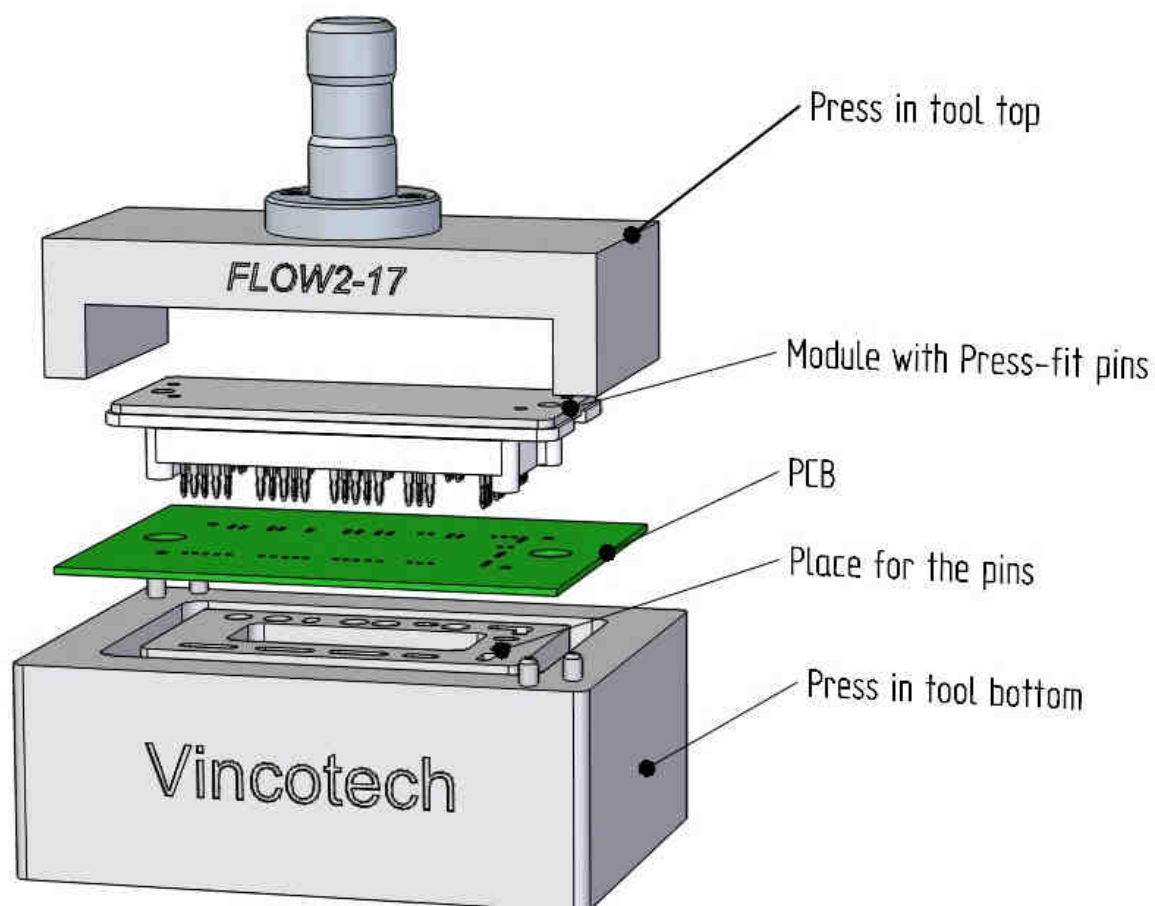
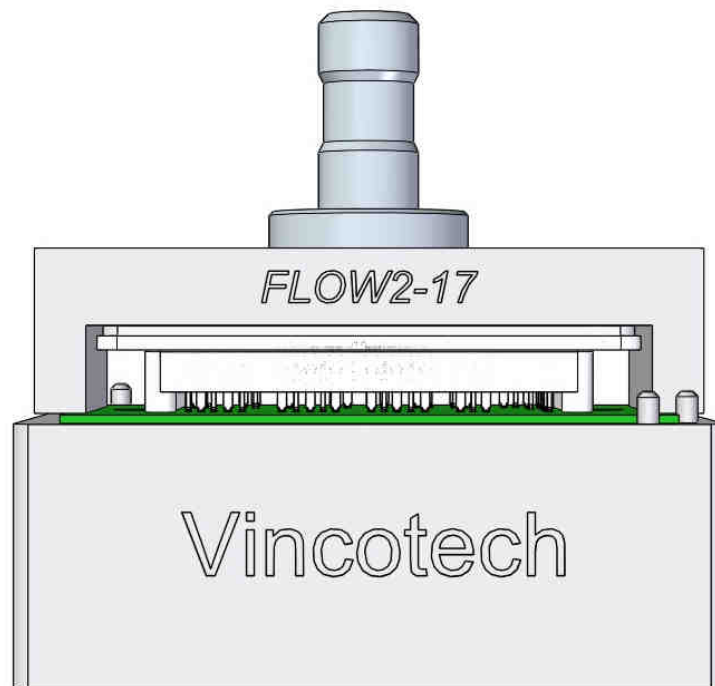

Figure 12: Recommended construction for the press in process
Figure 13: Press-in tools closed, module is pressed in
- The module can be pressed into the PCB from the top (as Figure 12 & Figure 13 shows) or the PCB can be pressed onto the module from the top (the module is below the PCB).
This condition is automatically fulfilled with the use of the recommended press-in tool. Figure 13 shows the closed press-in tool with the module.